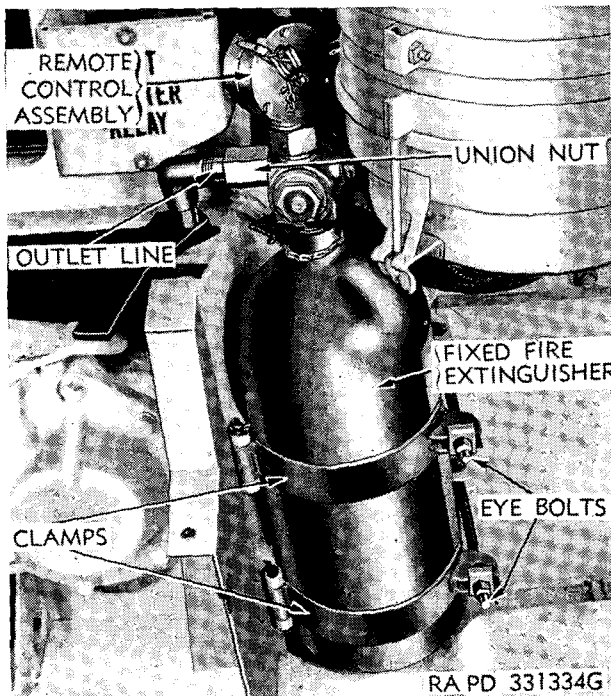

Figure 167. Fixed fire extinguisher installed.
- (1) Remove subfloor section surrounding extinguisher.
- (2) Back off union nut that holds main tube to extinguisher (fig. 167).
- (3) Back off nut holding remote control assembly to extinguisher valve.
- (4) Remove eye bolt nuts holding clamps in position on extinguisher.
- (5) Lift extinguisher and valve assembly out of vehicle.